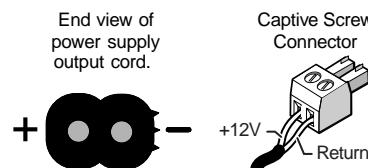

Figure 2-6 — Power connector wiring
- ⑦ **Power connector** — Plug the external 12V power supply into this 2-pole captive screw connector. The power supply is included with the unit. Figure 2-6 shows how to wire the connector.